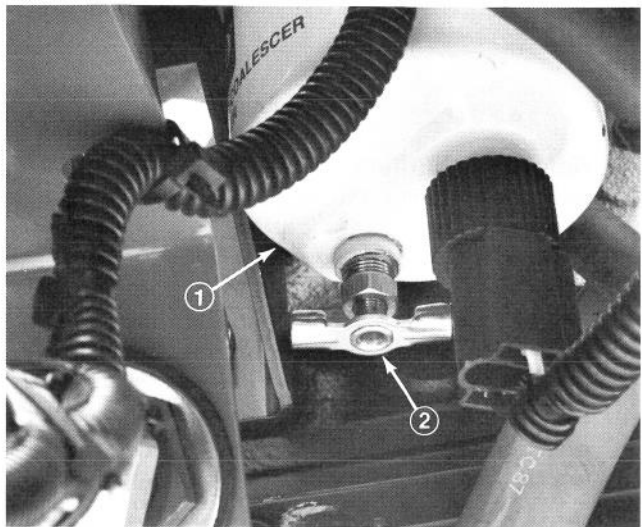

Figure 34
1. Locate fuel filter/water separator on lower left side of engine and drain daily (Fig. 34).